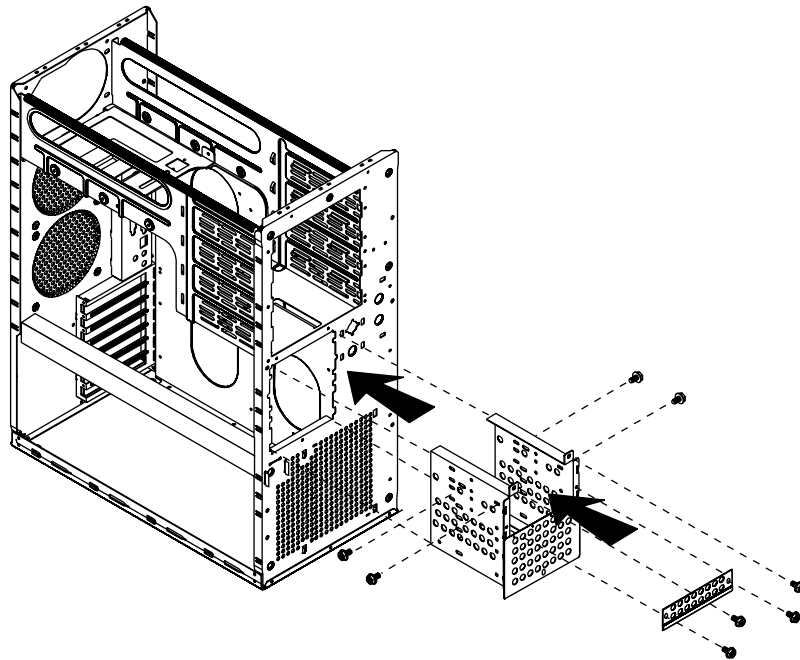

Figure 23: Replacing the Drive Bracket
9. Place the drive bracket in the chassis (see Figure 23). If you are installing a second front-accessible drive, do not reinstall the 3.5-inch metal filler panel when you reinstall the drive bay in the chassis.